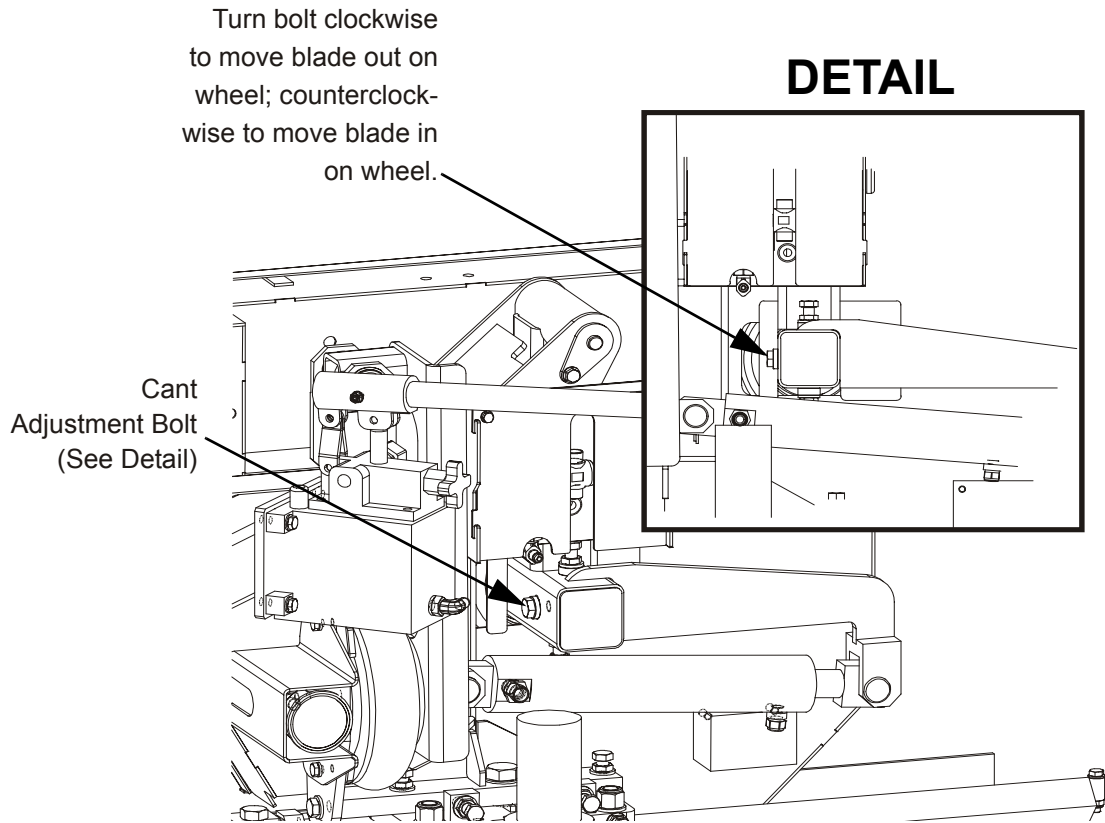

FIG. 2-1
**See Figure 2-1.** Set up the mill on firm footing and level by eye. Fasten the mill to the floor to prevent any creep after prolonged use. A cement pad with 5/8" (16 mm) diameter anchor bolts is recommended. The cement pad should be rated to support 6350 lbs./sq.ft. (31 T/m2) at each sawmill foot position.
See Figure 2-1.